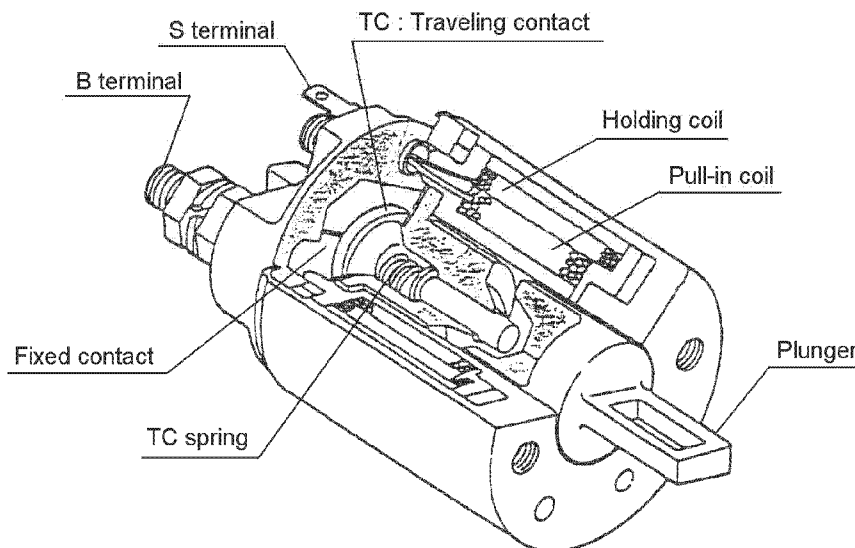
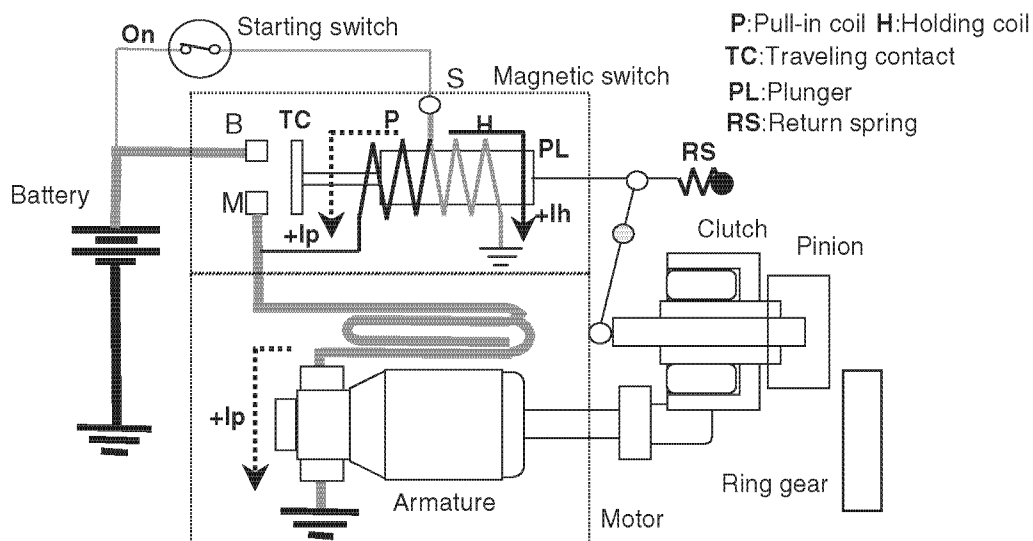

Figure 13-3
Figure 13-4
Figure 13-3 illustrates the magnetic starter solenoid. The magnetic switch has the following major functions:
Figure 13-4 shows the starter motor electric circuit to illustrate the movement of the pinion and the moving contact point, and the flow of current.
Figure 13-4 shows that pull-in coil P is on the left side of the plunger and holding coil H on the right side. Actually, both coils are in a two-tiered structure as shown in **(Figure 13-3)**. Therefore, though **(Figure 13-4)** describes the flow of current to the left and right separately, it actually flows in the same direction in both coils. That is, the lines of magnetic force of both coils are in the same direction.
- The magnitude of current (I_p) that flows through both coils is the same. The number of turns (T) of both coils is also the same. Therefore, the magnitude of the magnetic force (M_f) produced by both coils ($M_f = I_p \times T$) is the same.
- The direction of the current that flows through pull-in coil P when the starter motor is cranking is left (positive) as shown in **(Figure 13-4)**. The direction of the current that flows through pull-in coil P when the key switch returns to the ON position is right (negative) as shown in **(Figure 13-6)**. On the other hand, the direction of the current that flows through the holding coil when the starter motor is cranking and when the key switch returns to the ON position is the same (positive).